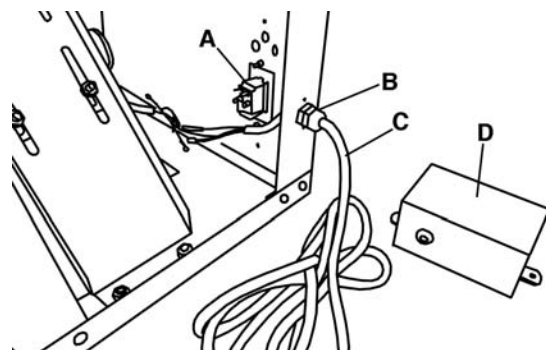

FIGURE 7
It is necessary to install the switch, switch cover, strain relief and power cord to the stand. First place the switch (A) Fig.7 into the switch opening in the stand and secure it in place using pan head screws, washers, star washers and hex. nuts.